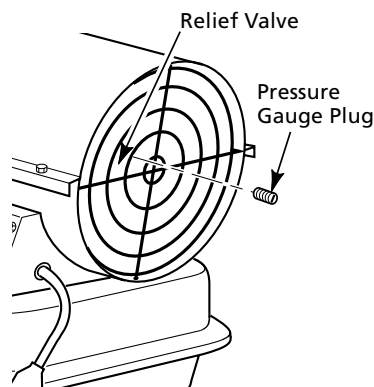
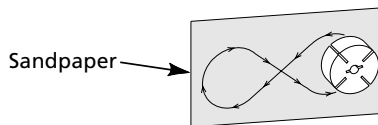

Figure 8 - Pressure Gauge Plug Removal
Figure 18 - Sanding Rotor
- Remove pressure gauge plug from filter end cover (See Figure 8).
14. Place fine grade sandpaper (600 grit) on flat surface. Sand rotor lightly in "figure 8" motion four times (See Figure 18).